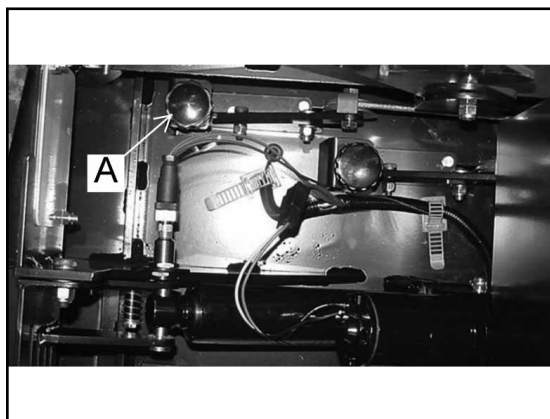

FIGURE 90
Turn the side broom adjustment knob (A) (Fig. 90) to change the side broom sweep height. Recheck for proper sweep pattern after adjustment.